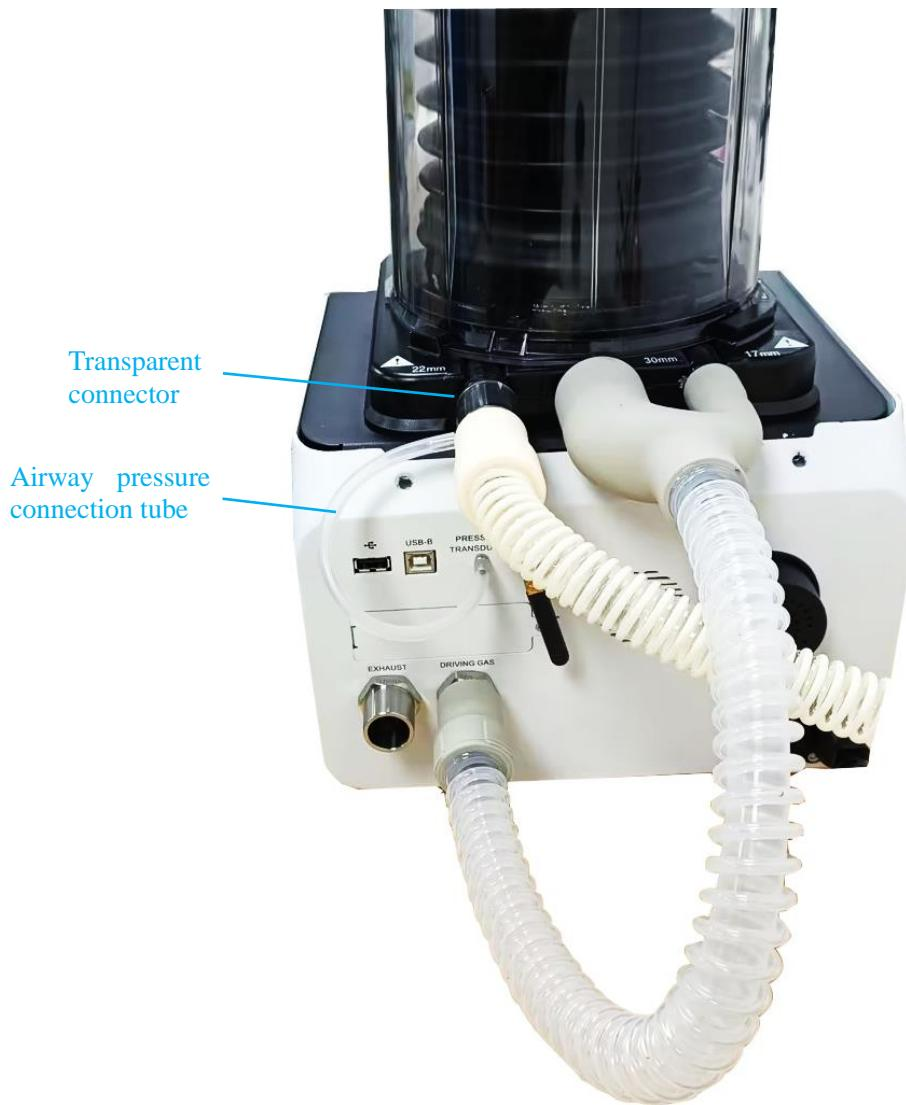

Figure 3-4
- 2) Shown as figure 3-4, connect the airway pressure connection tube-Luer-22mm to the pressure transducer port of the control unit, screw it tightly, and then install the 22mm connector (transparent) on the 22mm port of the bellows base;